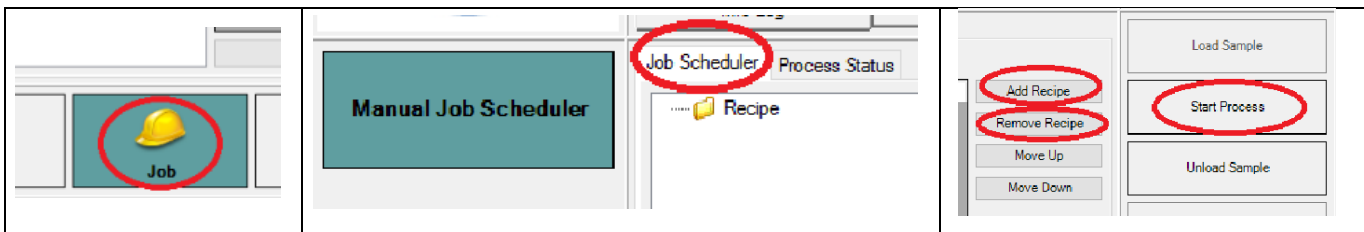

Figure. 17
27. Go to “*Job Scheduler*”. (Figure. 17)
28. Now start the measurement by clicking on “*Start Process*”. (Figure. 17)